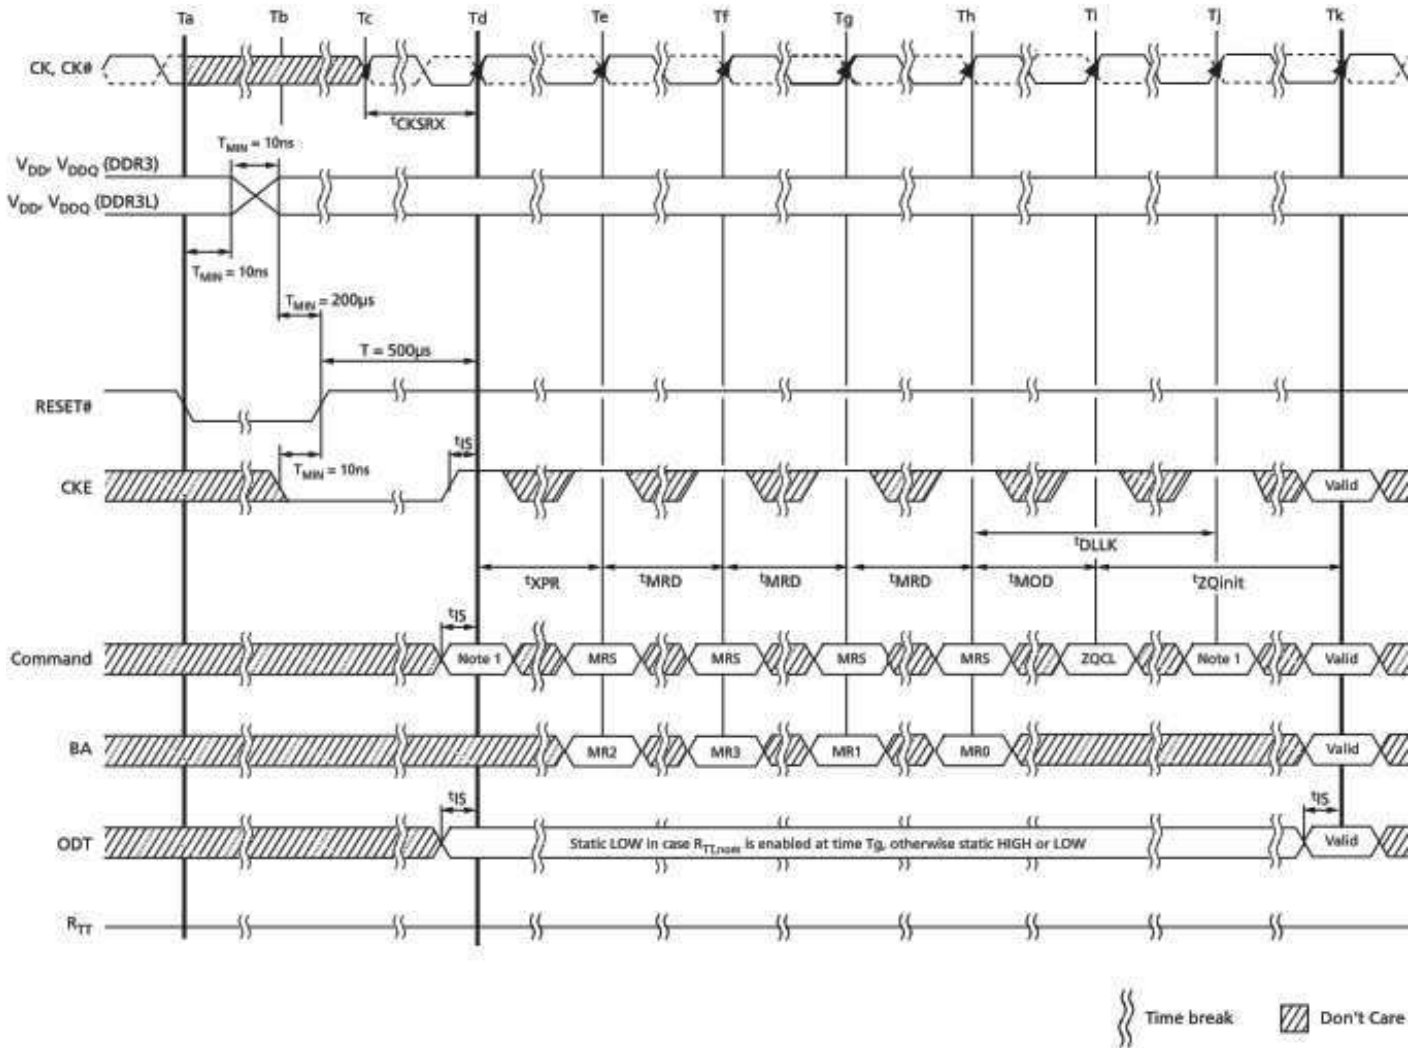

Figure 4-38: V_{DD} Voltage Switching
If the SDRAM is powered up and initialized for the 1.35V operating voltage range, voltage can be increased to the 1.5V operating range provided the following conditions are met (See Figure 4-38):
If the SDRAM is powered up and initialized for the 1.5V operating voltage range, voltage can be reduced to the 1.35V operation range provided the following conditions are met (See Figure 4-38):
After the DDR3(L) DRAM is powered up and initialized, the power supply can be altered between the DDR3L and DDR3 levels, provided the sequence in Figure 4-38 is maintained.